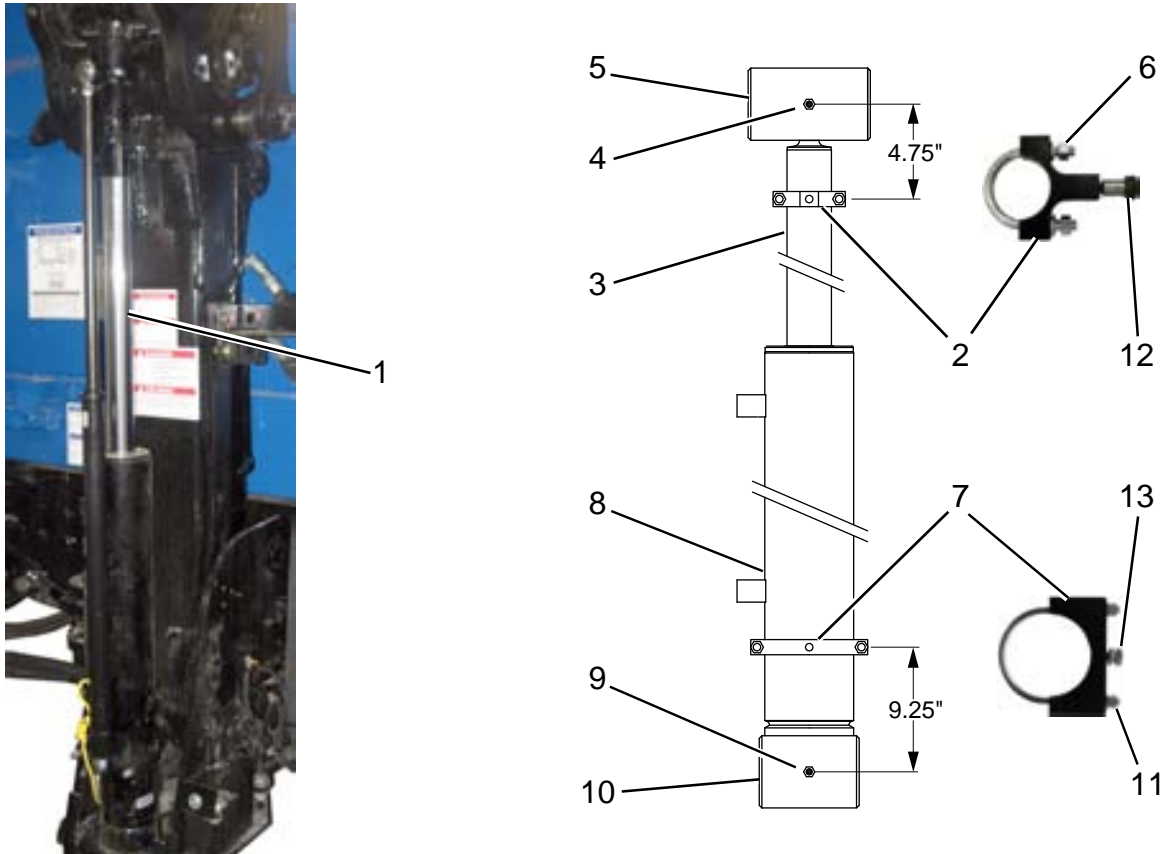

Figure 5
- Fully extend the dump cylinder (**Figure 5, 1**) rod by raising the AutoReach arm to the DUMP position.
- Install the smaller linear sensor mount (**Figure 5, 2**) on the dump cylinder rod (**Figure 5, 3**). Locate the center of mount 4.75" from the center of grease fitting (**Figure 5, 4**) located in cylinder rod end (**Figure 5, 5**). Evenly torque both nuts (**Figure 5, 6**) on the U-bolt to 25 ft-lb (300 in-lb).
- Install the larger linear sensor mount (**Figure 5, 7**) on the dump cylinder barrel (**Figure 5, 8**). Locate the center of mount 9-1/4" from the center of grease fitting (**Figure 5, 9**) located in cylinder base end (**Figure 5, 10**). Evenly torque both nuts (**Figure 5, 11**) on U-bolt to 25 ft-lb (300 in-lb).
- Install the linear sensor with the rod end up and the connector power lead to the rear of the vehicle. Apply Loctite® Grade 609 Green to the mounting bolts. The upper shoulder bolt (**Figure 5, 12**) is 1.5" long, and lower bolt (**Figure 5, 13**) is 1" long. Torque both bolts to 25 ft-lb (300 in-lb).
- Fully retract the dump cylinder (**Figure 5, 1**) rod by lowering the AutoReach arm to the HOME position.